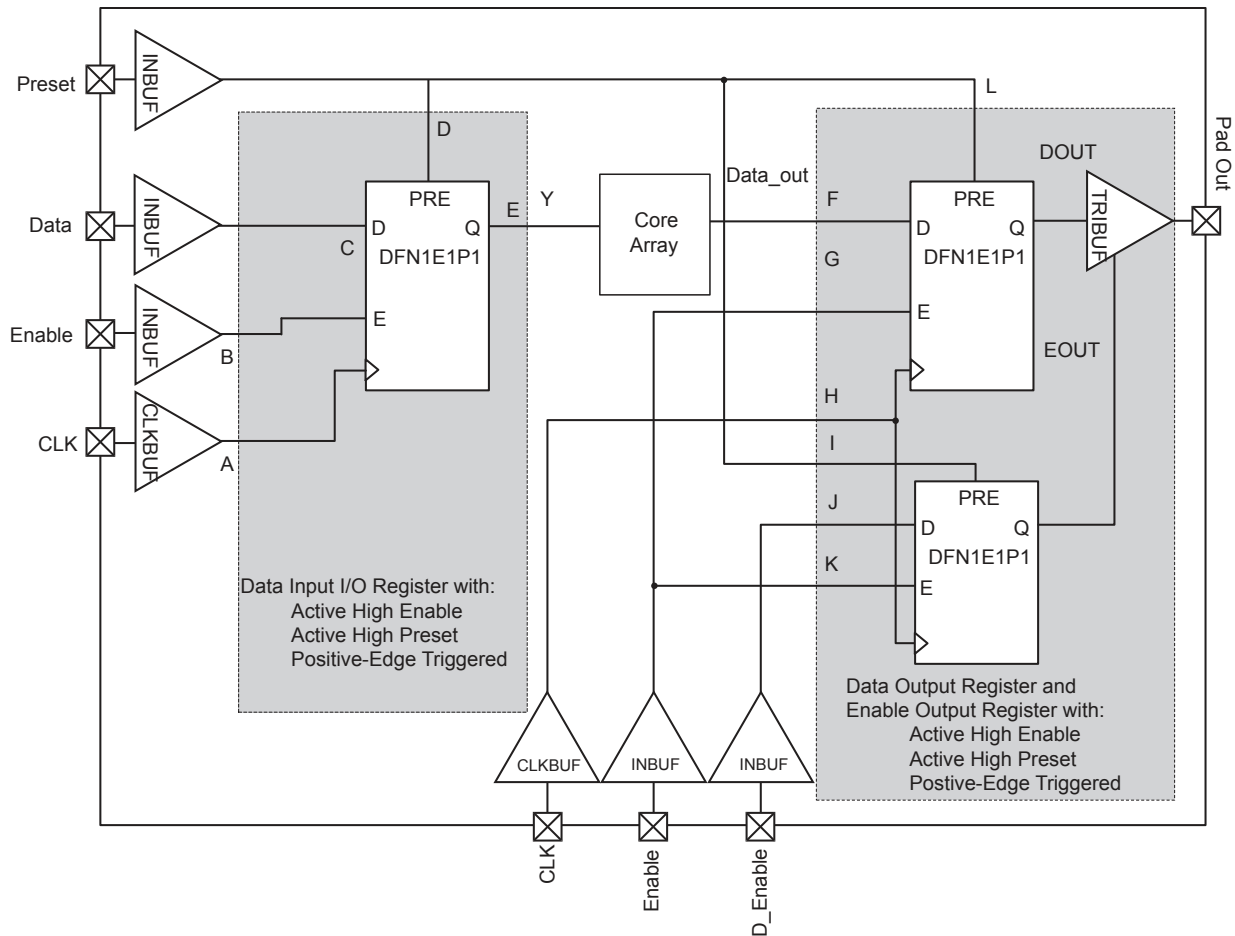

Figure 2-28 • Timing Model of Registered I/O Buffers with Synchronous Enable and Asynchronous Preset
* See Figure 2-28 on page 2-91 for more information.